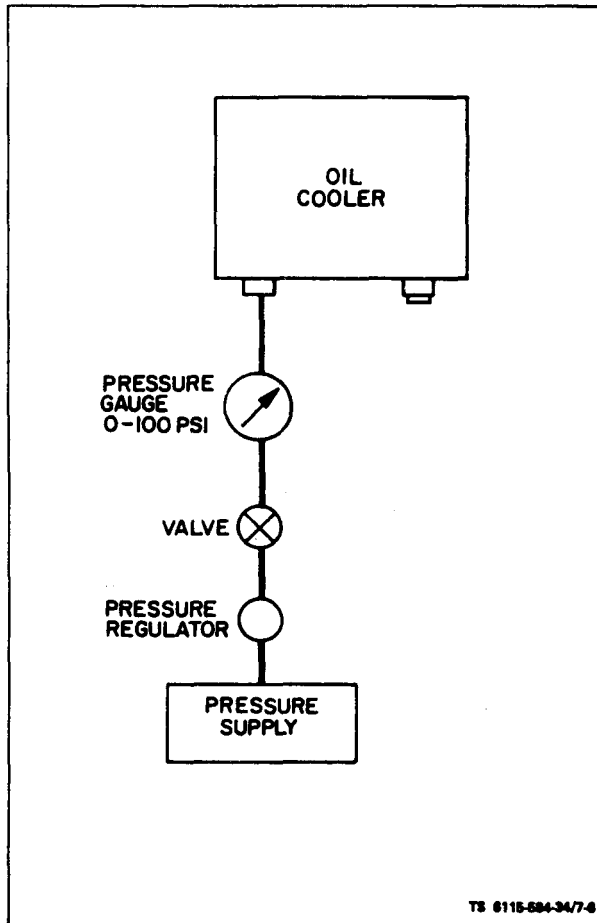

Figure 7-6. Testing Oil Cooler
c. Test (see figure 7-6).
(1) Plug the oil cooler outlet using suitable plug.
(2) Connect the oil cooler in suggested test setup (see figure 7-6).
(3) Apply 25 psi air pressure to the oil cooler.
(4) Close the valve and monitor the pressure. A drop in air pressure indicates a leak in the oil cooler.